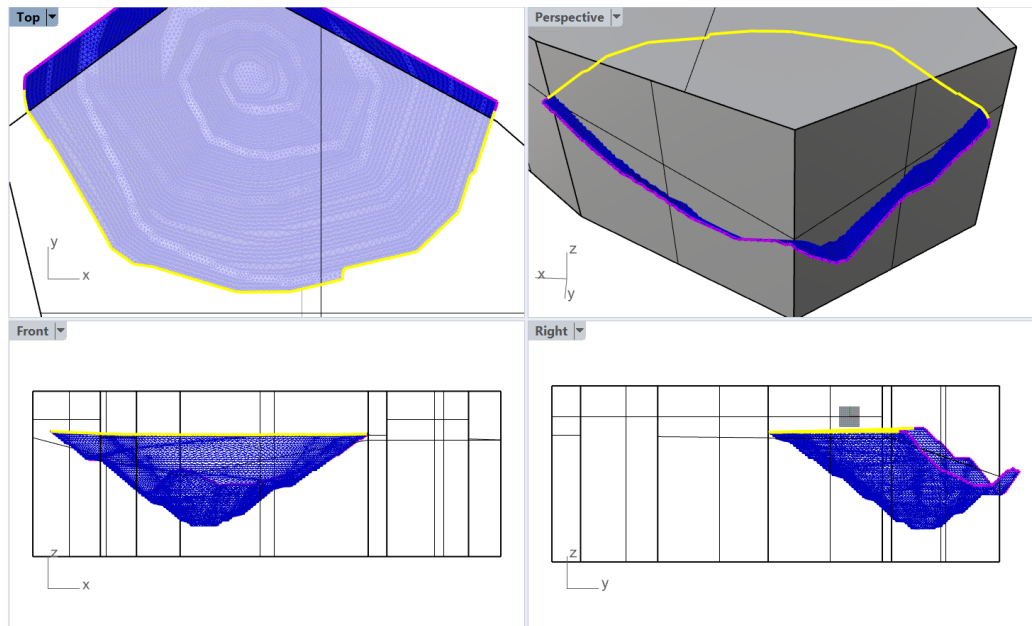
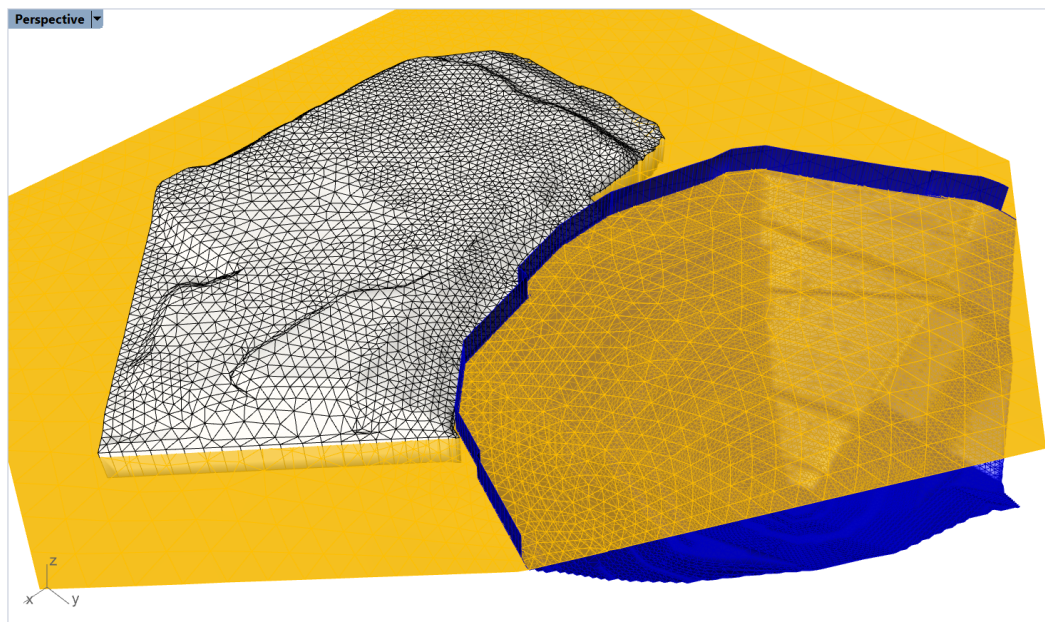

Figure 82: Selection of a piece of the pit boundary for mesh extension.
Figure 83: Extended pit mesh. Note that the mesh is not extended all the way to the corner points of its top boundary.
17. Turn on the “Pit” layer and turn off all others. Remesh the pit mesh with **\_GSurf**: *Mode* = *Tri*, *MinEdgeLength* = 10, *MaxEdgeLength* = 40, and *RidgeAngle* = 20°. Restore all four viewports by double-clicking on the current viewport icon (if any viewport is maximized). Turn on layer “Box” and switch *Top* viewport to Ghosted view. Select the pit dump mesh and use the **\_GExtend** → *FreeExtend* option. Select only the top part of the pit boundary in such a way that the selection goes a little beyond the box but not to the corner points of the top boundary4, as in Figure 82. Like before, move the cursor to *Front* or *Right* viewports and while holding **Shift**, drag the mouse upward, so the extended mesh is sure to intersect the topo mesh (the exact extension length does not matter). The resulting mesh should look similar to Figure 83.